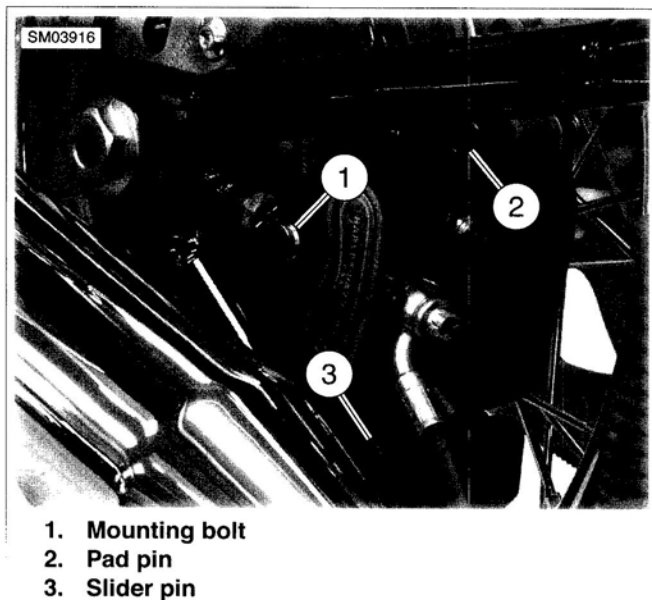

Figure 1-36. Rear Brake Caliper
2. See Figure 1-36. Loosen, but do not remove, pad pin (2) (metric).
3. Remove mounting bolt (1) and slider pin (3). Pull rear caliper with pads away from brake disc.
11. See Figure 1-36. Install **new** brake pads with pad pin (2) onto caliper using the same orientation as the ones previously removed. Tighten pad pin to 80-120 in-lbs (9.0-13.6 Nm).
13. See Figure 1-36. Install mounting bolt (1) and slider pin (3). Tighten both to 10-14 ft-lbs (13.6-18.9 Nm).